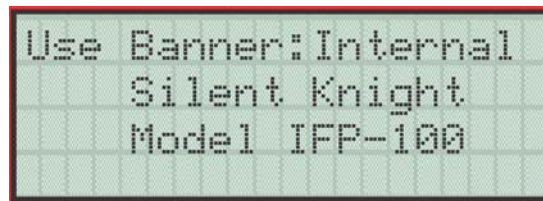

Figure 7-20 Internal Banner Message
4. Select **8** for Edit Banner. A screen similar to the one shown in Figure 7-20 will display.